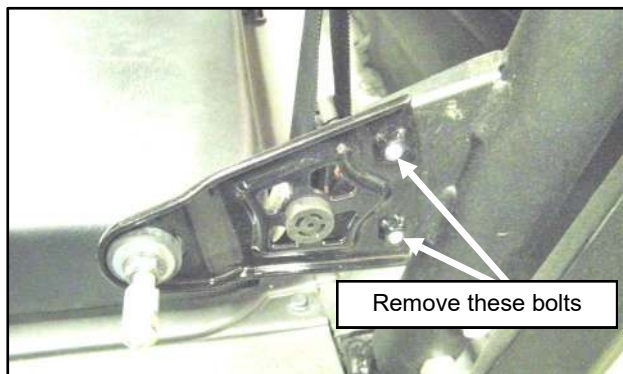

Fig. 1.2 Factory door latches (2)
1.2 Per figure 1.2, remove factory door latches for left and right doors.